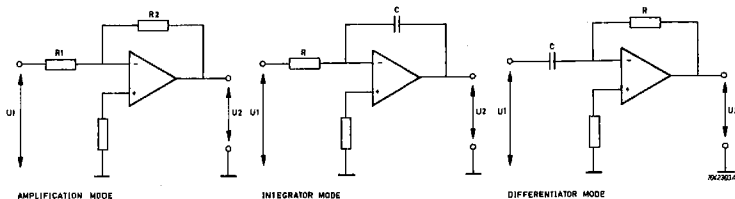

Fig. 5-5 Operational Amplifier
1.5 OPERATIONAL AMPLIFIER (figure 5-5)